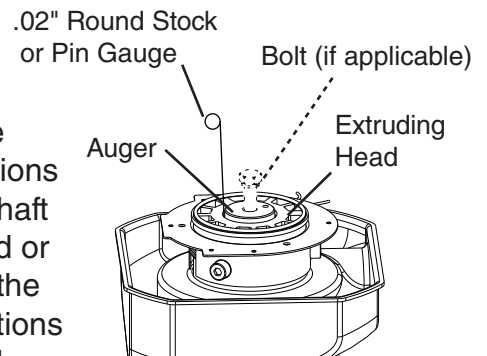

Fig. 14
- 5) Replace the bolt in the auger (if applicable). See Fig. 14. Move the auger towards you and then try to insert a .02" round stock or pin gauge in between the back side of the auger shaft and the bearing surface. Check several locations around the auger shaft. If the gauge goes between the shaft and the bearing at any point or if the bearing is scratched or cracked, both the top bearing in the extruding head and the lower bearing in the housing should be replaced. Instructions for removing the extruding head and housing are located later in this procedure.